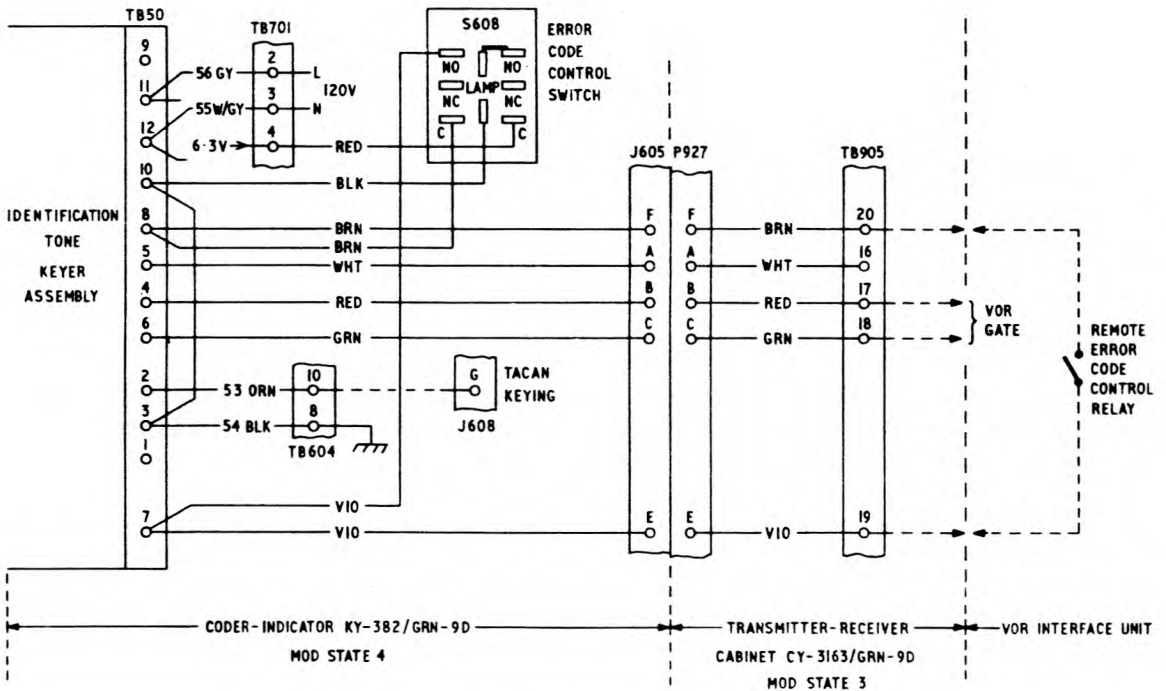

Fig. 12 Coder Indicator, Keyer Connections
- (1) The word "mechanical" becomes redundant.
- (2) References to "mechanical keyer motor" and "motor switch" should be ignored.
- (3) References to "motor lubrication" should be ignored.
- (4) TB50, mounted on the side of the electronic keyer replaces and has a similar function to TB601 which is removed. The four original wires to it are used with TB50, plus a further eight.
- (5) A new switch, S608, is fitted to the front panel. This is a test switch to call up an additional code message signifying that a fault condition exists, or the TACAN beacon is undergoing maintenance. This is a warning to pilots and navigators that the beacon is unreliable.
- (6) The "ERROR" code of the previous paragraph can also be accessed remotely after extra wiring and equipment is laid in. (See Figure 12 for wiring changes, and chapter 2 for a technical description of the electronic keyer.)